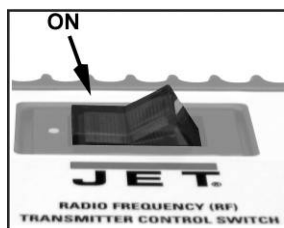

Figure 9A
3. On the main unit place the switch to the *ON* position (Figure 9A). The red LED on the main unit should light up.